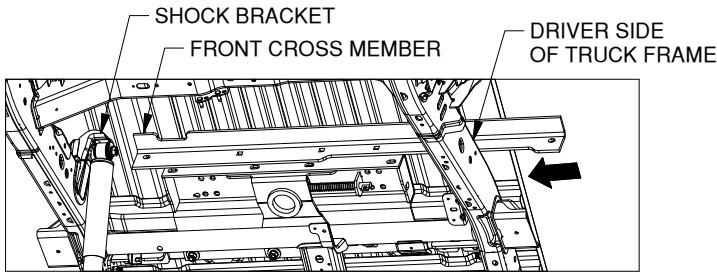

Figure E1: Looking up at center section. (Fuel tank not shown.)
1. **Position front cross member.** Locate the front cross member. Orient the front cross member so the leg with the holes is vertical, as shown in Figure E1. Slide the end with the short notch between the frame and truck bed from the driver side. The notch in the top leg will allow clearance around the shock bracket on the passenger side when fully installed.